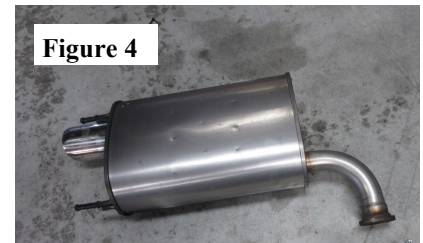

Figure 4
4. Carefully remove both metal gaskets from the Right-Side and Left-Side removed mufflers. (See Figs. 4 & 5)